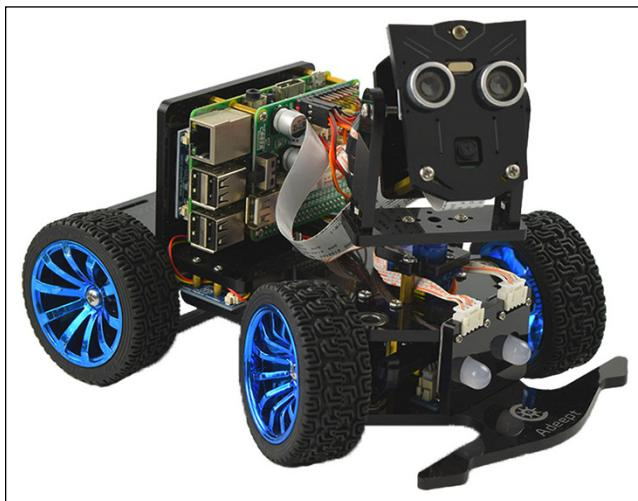

FIGURE 2-10:
So, go build your robot and then meet us back here to start testing your new robot. Calibrating your servos is the first step! Then we run a full system test. Figure 2-10 shows the assembled robot.
- » Route the wires as shown in Figure 2-10 so the motors won't bind. Use some plastic wire ties to hold things in place, allowing for room for the servos and housing to turn. There is a wire wrap included that will fit some of the wires.